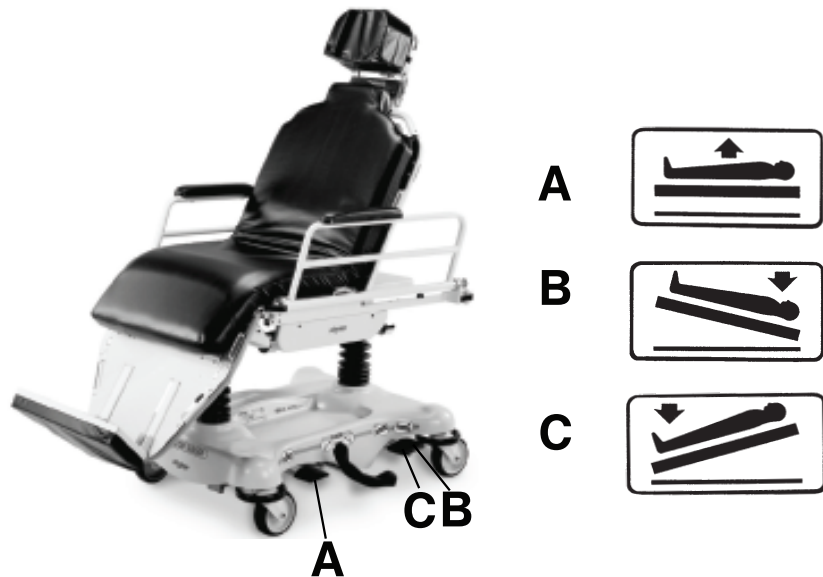

Figure 3 – Raising or lowering the litter
To raise the litter, pump the pump pedal (A) repeatedly until you achieve the desired height (Figure 3).
2. Push down on pedal (B) (Figure 3) until you reach the desired position.
2. Push down on pedal (C) (Figure 3) until you reach the desired position.